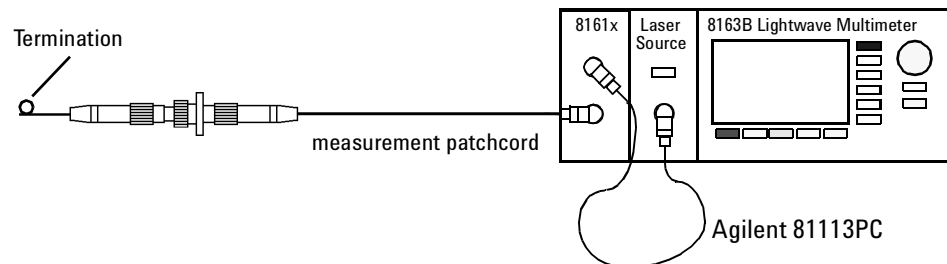

Figure 106 Measuring the Return Loss of the DUT (in this example: a Connector Pair)
- 1 Attach the DUT to the measurement patchcord. In the example shown in Figure 106, the DUT is a connector pair.